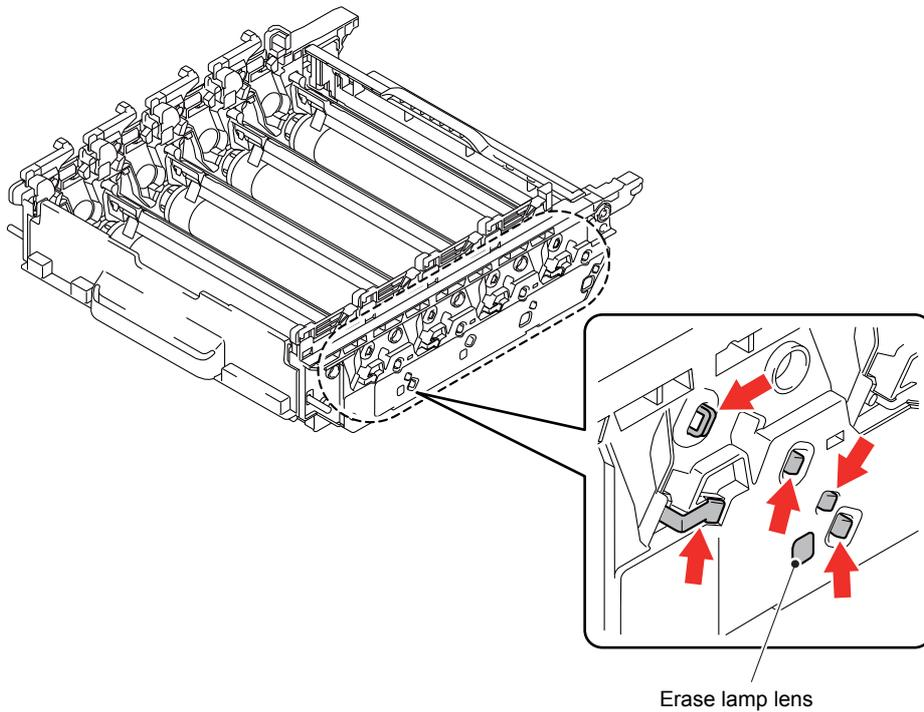

Fig. 2-13
- Clean the electrode of the drum unit. (Refer to Fig. 2-13 \(P2-70\))